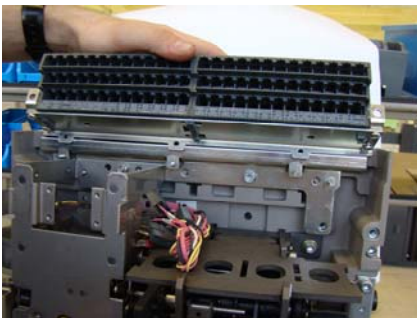

Figure 3. SD assembly
6. Replace the one block assembly with the 2-block assembly as shown in fig 3.